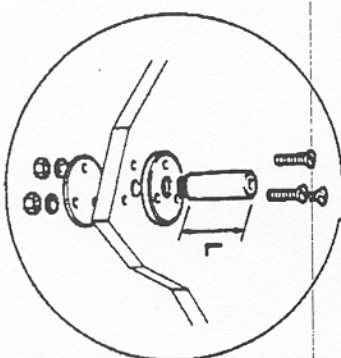

Fig. 8
- Mount the flange using 3 x 6mm ( $\frac{1}{4}$ ") diameter bolts, nuts and washers, being sure the back plate is installed correctly. Bed the flange on a thin coat of silicon sealant (Fig. 8).